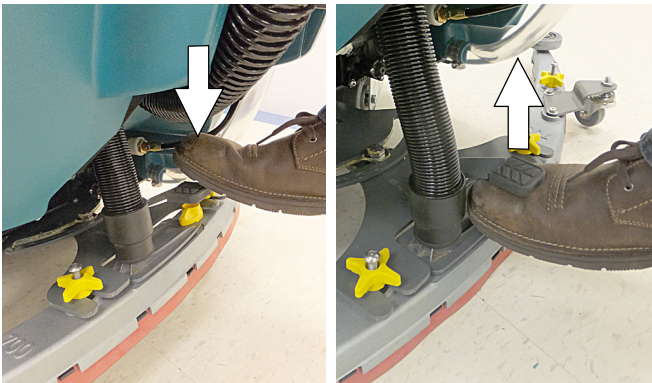

FIG. 37
4. Lower the squeegee assembly to floor by stepping on foot pedal (Figure 37). To raise squeegee assembly, place foot under foot pedal and lift. The vacuum motor will automatically start when squeegee is lowered to floor.